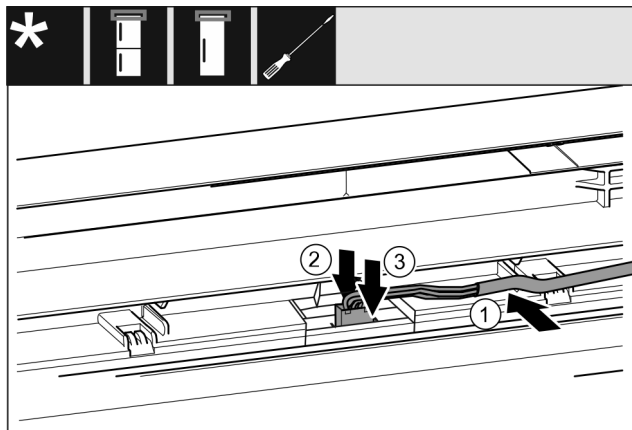

Fig. 49 Fridge/freezer combinations/freezers/cooling units*
- ▶ Carefully insert the cable Fig. 49 (1) into the guide in the top door.*
- ▶ Press the latching tab Fig. 49 (2) towards the back.*
- ▶ Snap in the plug Fig. 49 (3).*